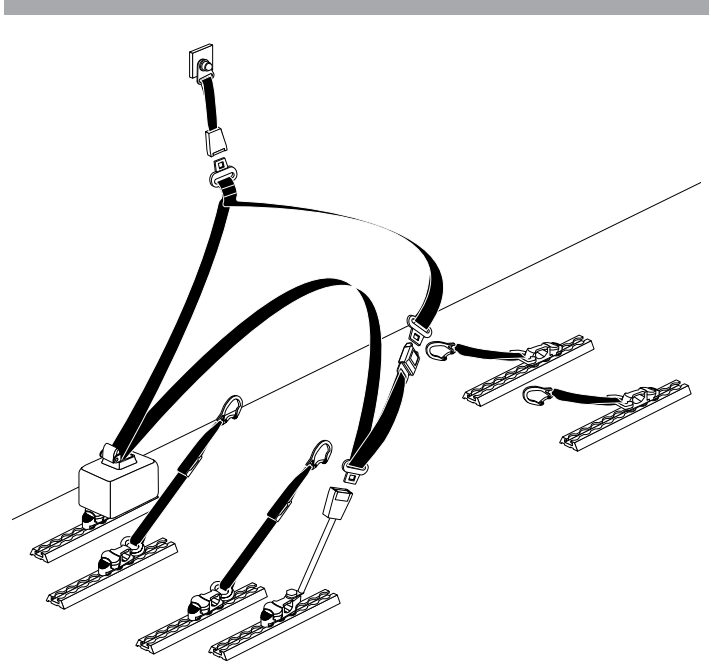

Figure 14. Vehicle-anchored Belt Restraint
- If your power chair is equipped with a crash-tested pelvic belt that is anchored to the seat frame, complete the restraint system by attaching the lower end of the WTORS upper-torso belt to the pelvic belt by referring to the WTORS manufacturer's instruction. Crash-tested power chair-anchored pelvic belts will be labeled to indicate compliance to the ISO 7176-19 standards. **See figure 14.**